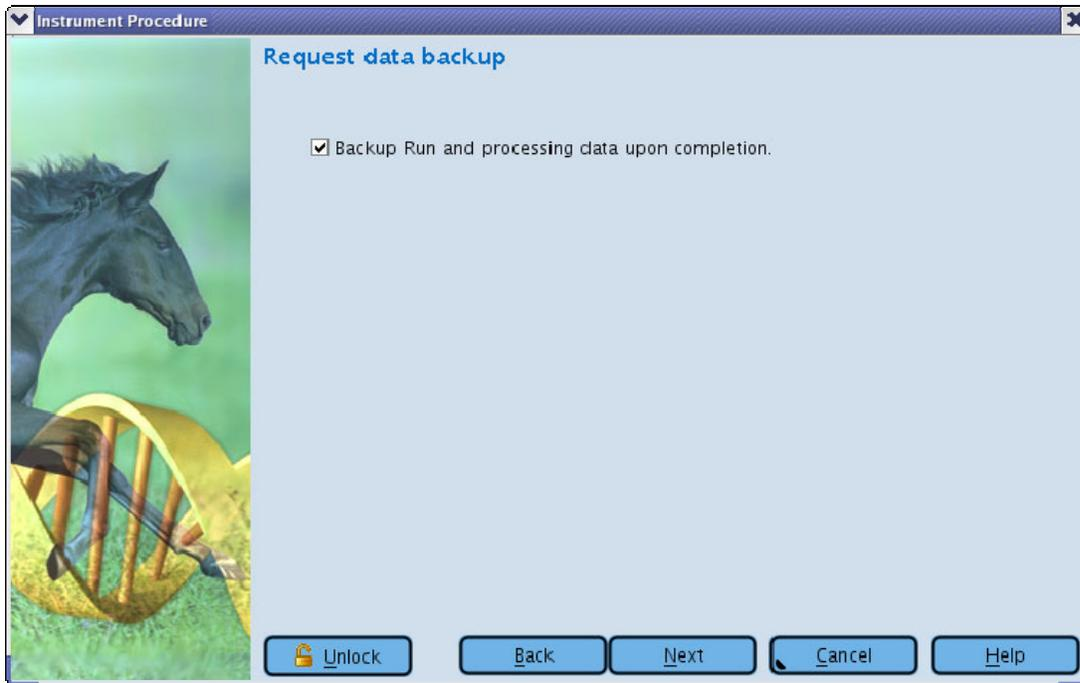

Figure 16: GS Sequencer Run Wizard – ‘Request data backup’ window
8. **Request data backup** (Figure 16) – If the ‘Backup the Run and Processor data upon completion’ checkbox is checked, the backupScript.sh script will be called at the end of the sequencing Run to archive the data to a data storage location specified in the script. (The backupScript.sh and data management are discussed in more detail in Part B, Section 5 of this manual.)